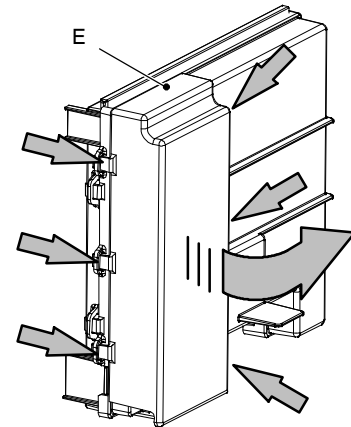

Fig. 2.7
- To remove the terminal block lid *E* (Fig. 2.7), free the front hooks.
- Remove the terminal block lid *E* (Fig. 2.7).